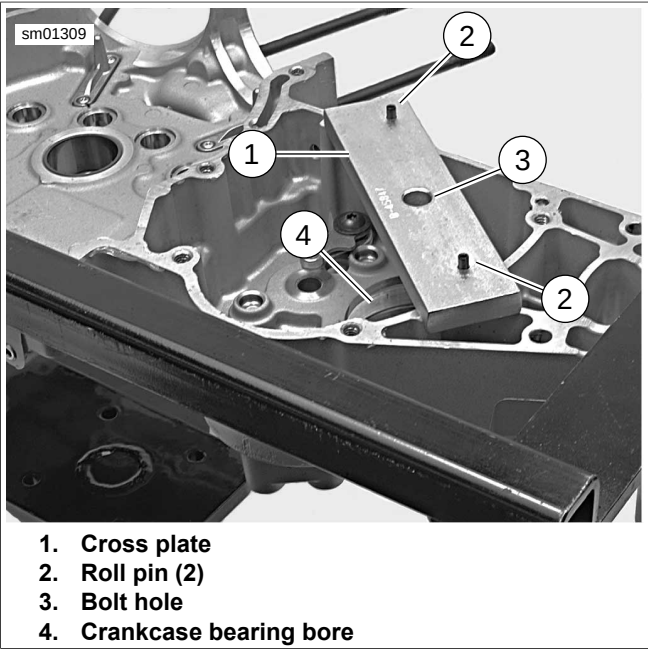

Figure 5-74. Positioning Cross Plate: XL Models
1. See Figure 5-74. Place CROSS PLATE (Part No. B-45847) (1) on right crankcase as shown. Position cross plate so that roll pins (2) fit into crankcase mating screw holes and bolt hole (3) in cross plate is centered over crankcase bearing bore (4).